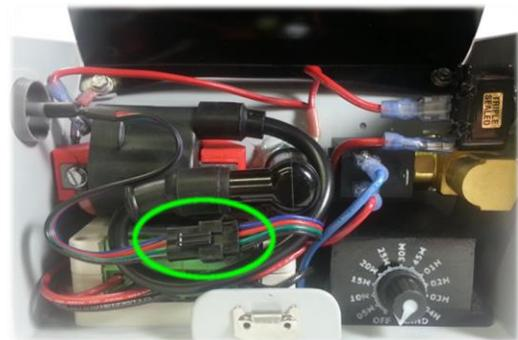

Figure 2
8. Connect the motion sensor's 4-pin male electrical connector to the cannon's matching 4-pin female electrical connector (Fig. 2, circled in green).